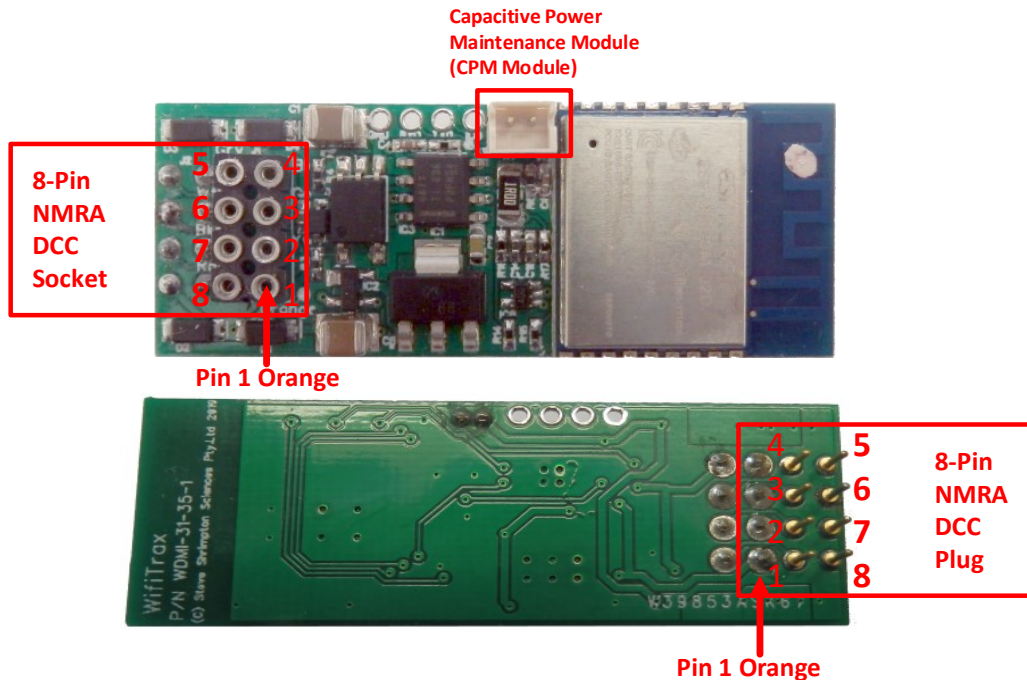

Figure 1. WDMI-35 Connections
- (1) Remove the shell from your locomotive and carefully check the location of everything inside the locomotive including where the optional CPM-10 module will be placed.
- (2) Insert the plug on the base of your WDMI-35 module into the 8-pin DCC-Ready socket on your locomotive's circuit board. Be sure to insert the module such that pin 1 goes into the pin-1 socket. See Figure 1. Be sure the underside of the WDMI-35 does not touch any metal objects on the locomotive circuit board. If necessary use a layer of electrical tape under the WDMI-35 between it and the locomotive circuit board or any protruding components.
- (3) Insert the 8-pin plug of your DCC decoder into the 8-pin NMRA DCC Socket on the WDMI-35. Be sure that the orange lead of the harness or pin 1 goes into the pin-1 socket. See Figure 1.
- (4) If required, insert the 2-pin plug of your CPM-10 module into the CPM Module 2-pin socket on the WDMI-35. The plug and socket are designed to only be inserted the correct way around. **Do not force the plug into the socket the wrong way around!**
- (5) Ensure that all modules are in their place and nothing is shorting. You can mount the CPM-10 with blue-tack or adhesive mounting tape. Any loose wires can be fixed in tidy positions with blue tack or similar to avoid getting pinched when you replace the plastic shell.